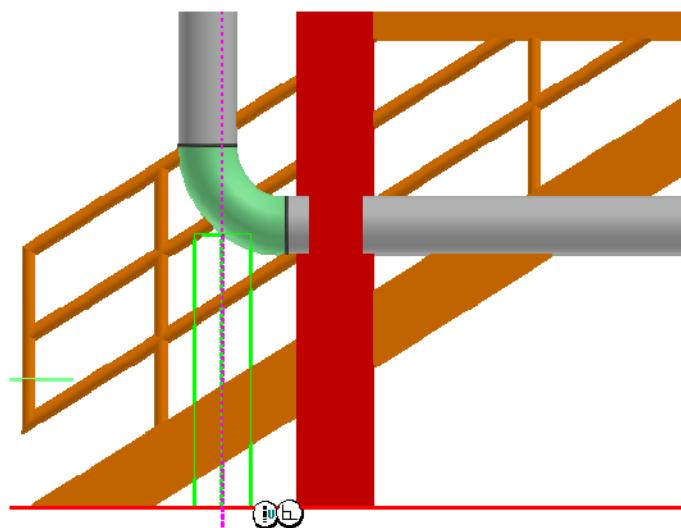

Figure 13: Defining the Length of the Pipe Trunnion
27. Define the length of the pipe trunnion by moving the cursor and find the intersection between the grid line and the steel column, as shown in Figure 13.